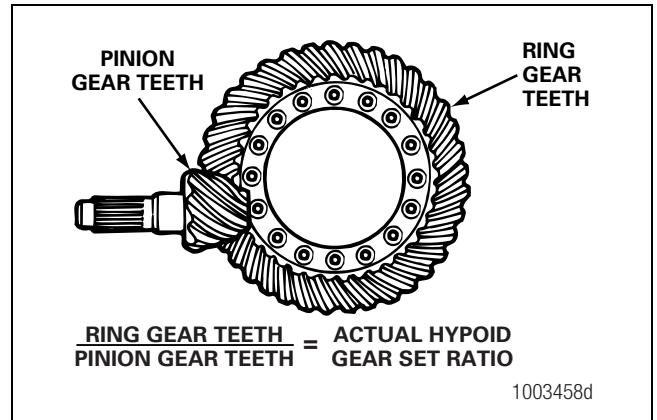

Figure 4.20
1. Count the number of ring gear teeth. Figure 4.20.
2. Count the number of pinion gear teeth. Figure 4.20.
3. Divide the number of ring gear teeth by the number of pinion gear teeth to determine the actual hypoid gear set ratio for each axle. Figure 4.20.